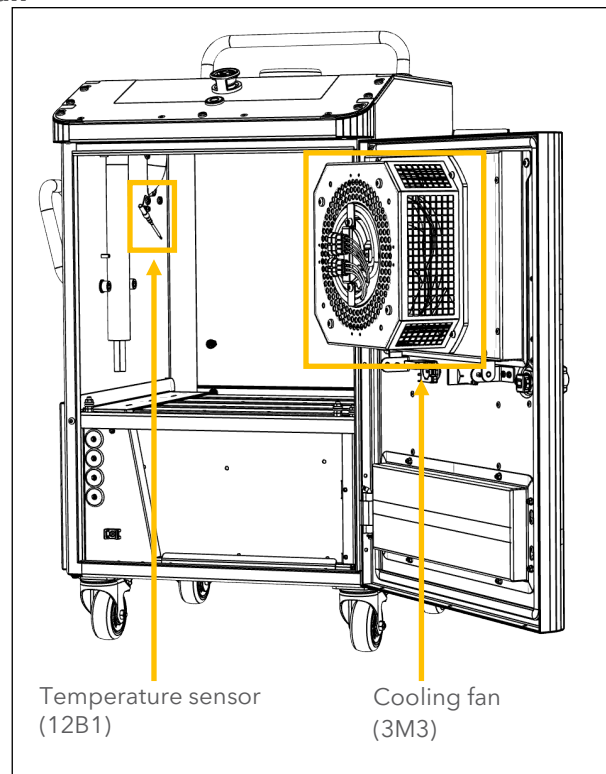

Figure 13: Cooling fan and temperature sensor
- Use a hot air gun to heat up the temperature sensor (12B1) to test whether the cooling fan starts. See Figure 13.